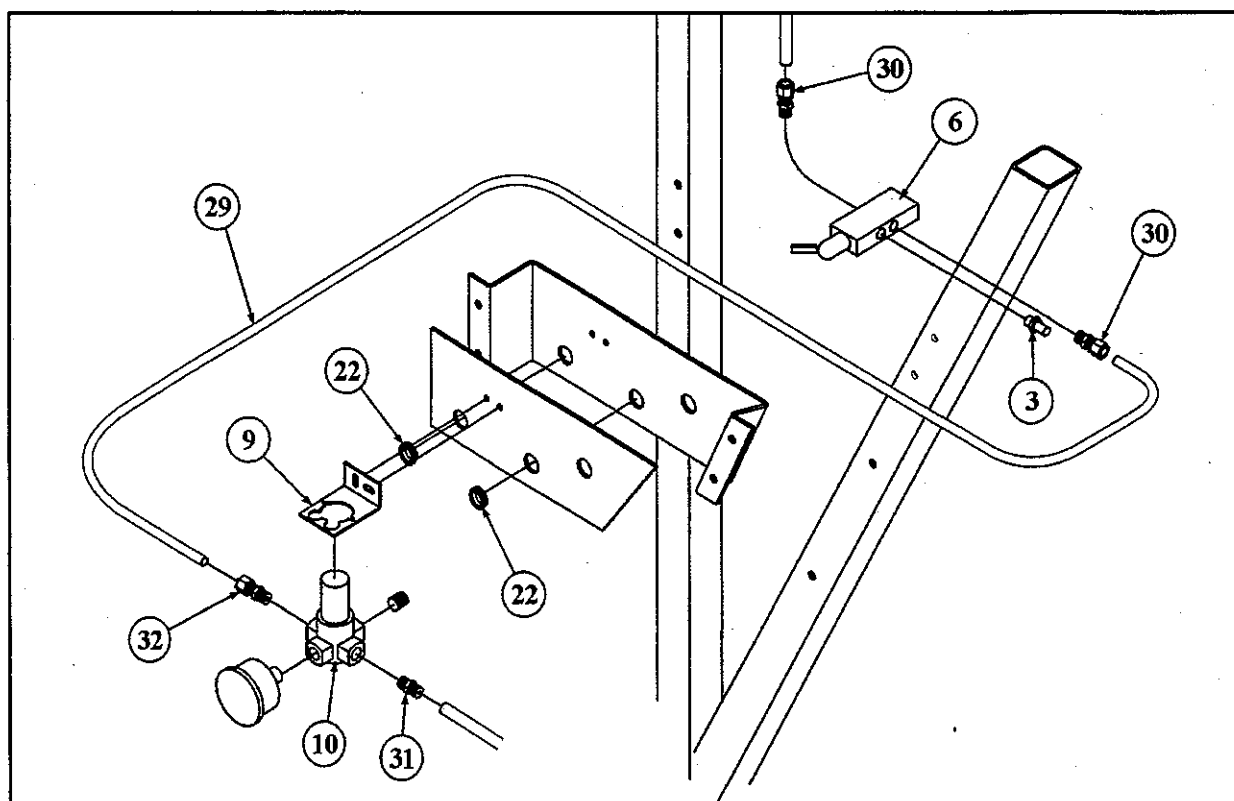
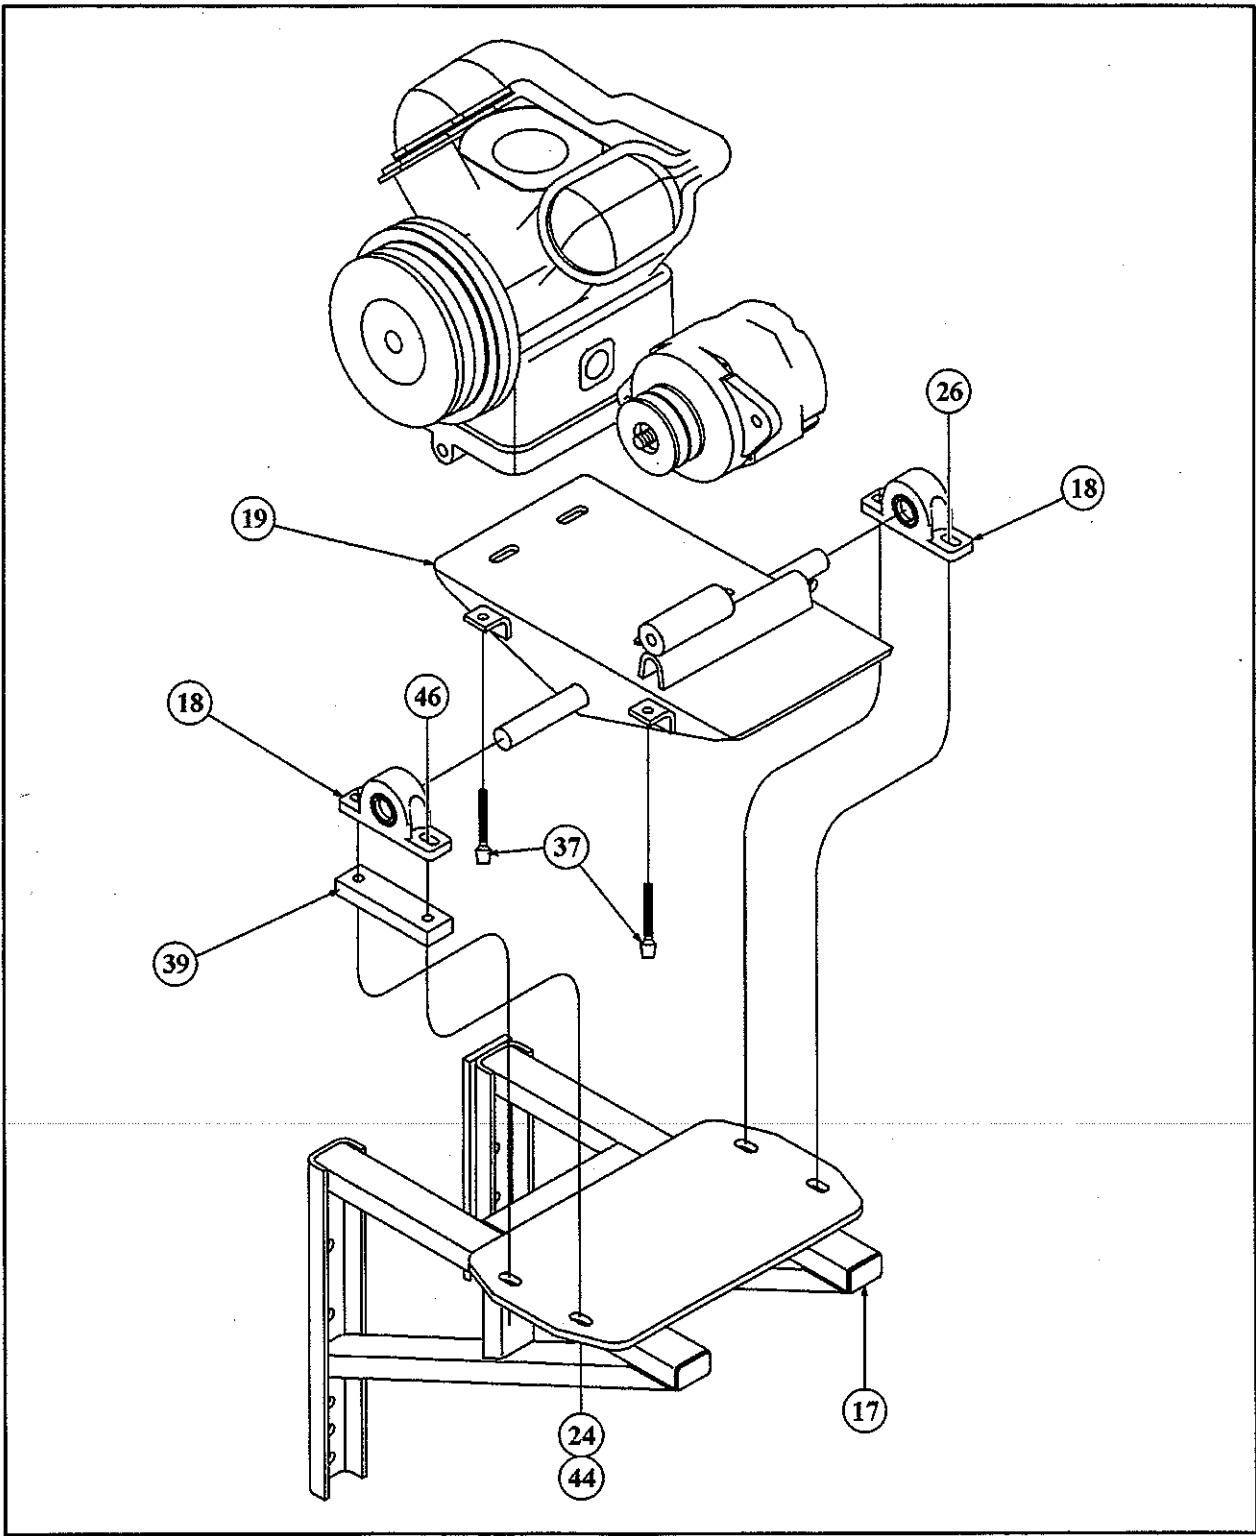

Figure 2—Air Regulator and 2-Position Toggle Valve
Figure 4—Compressor and Motor Drive
2. Remove the nut (35), split ring lock washer (34), two-flat washes (28) and capscrew (27) from the clevis rod (2). (See Figures 2 - 4.)
3. Remove the disconnected air cylinder (1).
4. Remove the two capscrews (26) and two split ring lock washers (23) from the cylinder to compressor mounting bracket (4).
5. Remove the capscrew (26) and flat washer (28) from the cylinder to compressor mounting bracket (5)
6. Remove the compressor to motor drive belt (12). (See Figure 4—Compressor and Mounting Drive.)
7. Remove the nuts (48), washers (24), and bolts (47) from the compressor pivot mounting base (19).
8. Remove the air compressor (49).